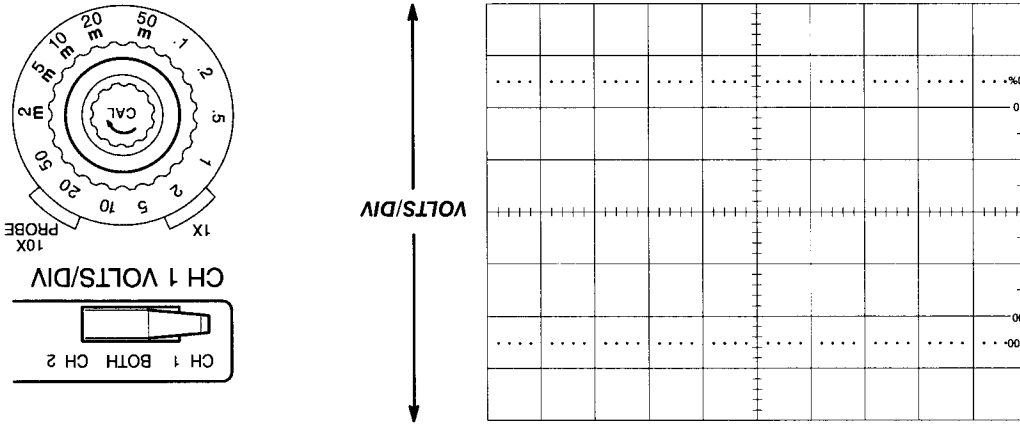

Figure 3-3: Vertical Display Controls
**Step 3:** Set the vertical scale (or attenuation factor) for the display by turning the volts/division knob of the selected channel (Figure 3-3). Choose a setting that is several times higher than the amplitude of the signal. This will keep the display from going off screen.